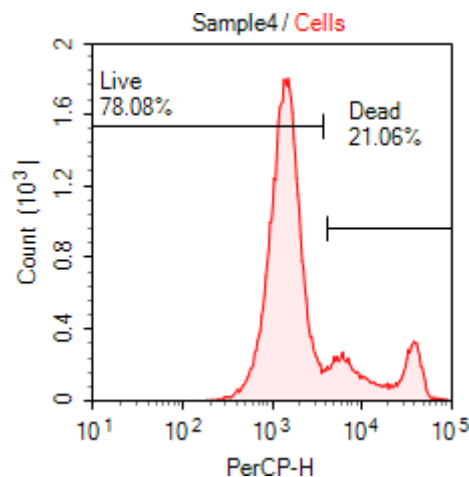

Figure 6. Gating strategy 2: single parameter histogram identifying viable cells.
5. Set up a gating strategy for live and dead cells using the histogram plot (Figure 6).